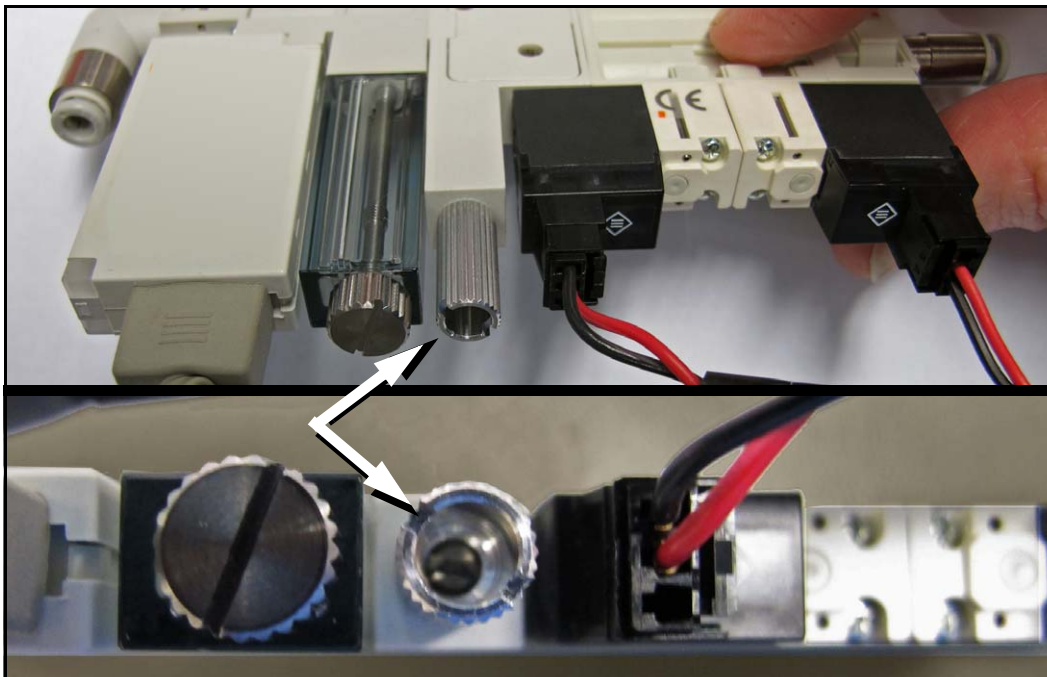

Figure 4-6: The Blow-off adjustment set-screw on the vacuum generator is inside a knurled stem (arrow). (The vacuum block must NOT be removed as shown here.)
5. Locate the actual vacuum generator (Data I/O PN 815-0047-001+) on the right side of the PNP head. Find the blow-off adjustment set-screw. It is inside a long knurled stem which needs to be loosened before adjusting the set-screw. See Figure 4-6.